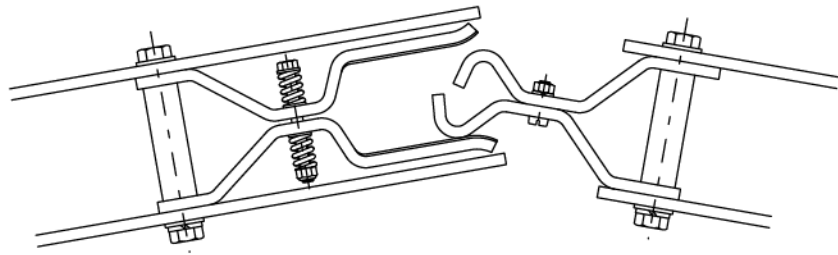

Figure 7
6. Rotate the turntables to put the main blades in the position shown in Figure 7. In this position the male contact has to touch the female contact slightly.